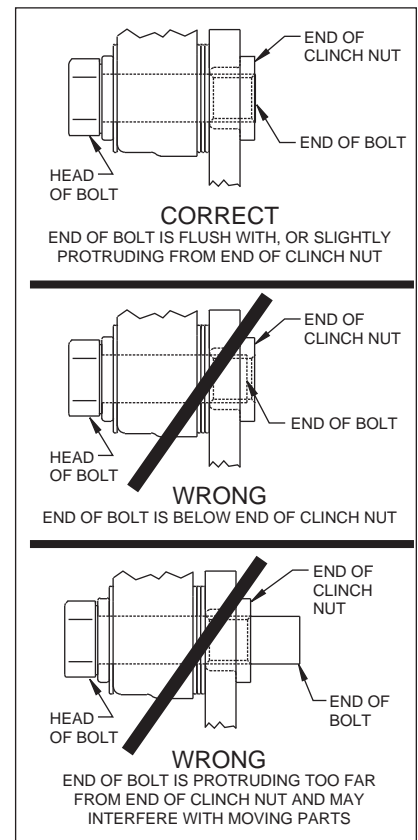

Figure 5.
- **NOTE:** Please reference the caution statement at the beginning of the assembly instructions. Mount the caliper (5) over the rotor (2) and onto the customer supplied caliper mounting bracket using washers (6) and mounting bolts (7). View the rotor through the top opening of the caliper. The rotor should be aligned in the center of the caliper. If not, adjust the caliper by using 0.032 inch shim washers (8), placing them between the caliper mounting bracket and the caliper (5). Add as many shim washers (8) as necessary to achieve the correct alignment. **NOTE:** The end of the bolt must be flush with or slightly protruding from the head of the clinch nut. See Figure 5. Place spare shims (8) between washer and caliper mounting ear to achieve the proper mounting fastener configuration. Always use the same amount of shims on both the top and bottom caliper mounting bolts (7). Apply red Loctite® 271 to the mounting bolt threads (7), torque bolts to 30 ft-lb. Safety wire the caliper mounting bolts (7).
- Position the Wilwood disc brake pads (9) into the caliper (5) and fasten with cotter pin (10). Steel backing plate side of brake pad should face the caliper pistons.